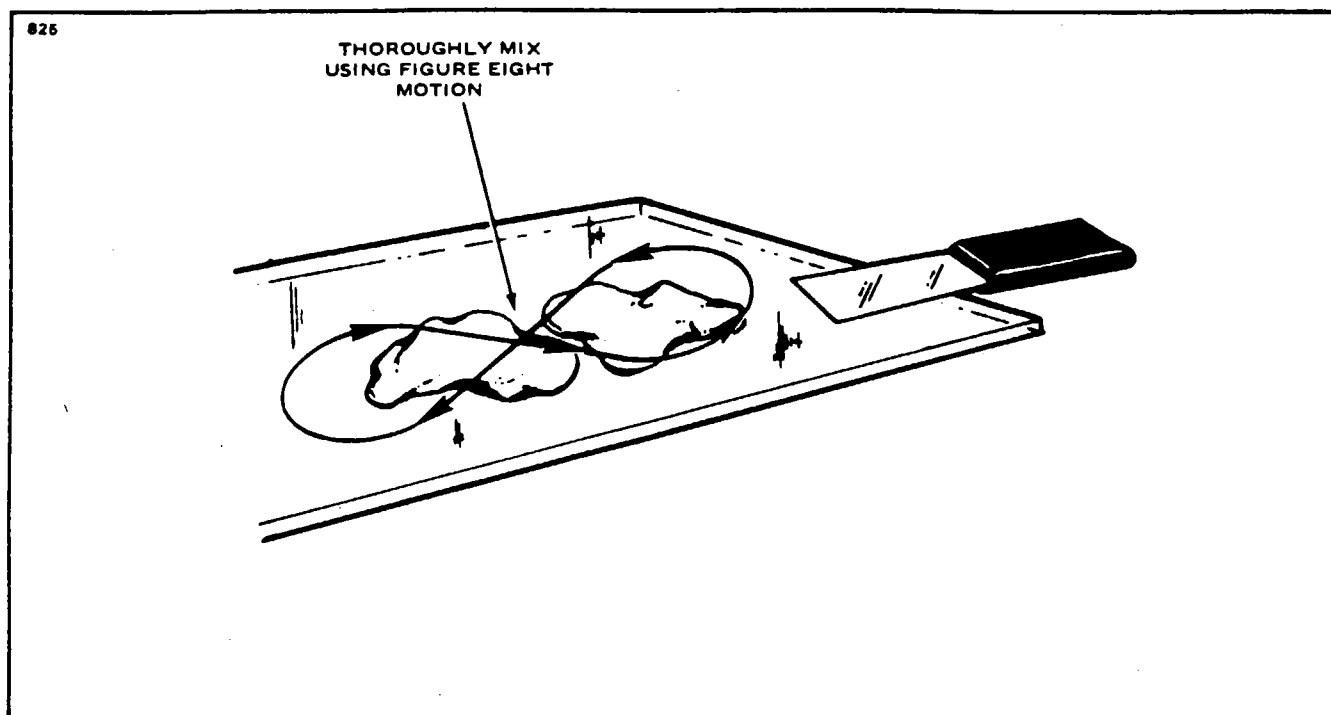

Figure 51-5. Mixing of Epoxy Patching Compound
F. The patching compound is mixed in equal portions on a hard flat surface using a figure eight motion. The damaged area is cleaned with perchlorethylene or VM&P Naptha prior to applying the compound. (Refer to Figure 51-5.)